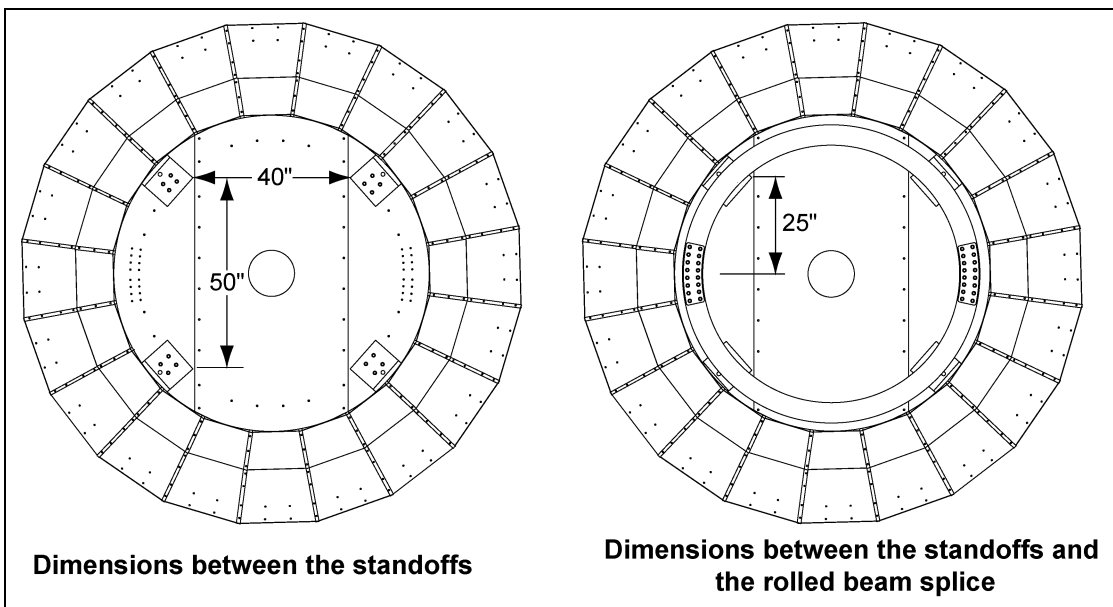

Figure 3
1. Place the assembled rolled I-beam (A) on the four (4) stand-off weldments (F) on the cap plates.
**NOTE:** Make sure that the splices in the rolled beam are oriented as shown in Figure 3 with respect to the seams in the center collar cap plates.